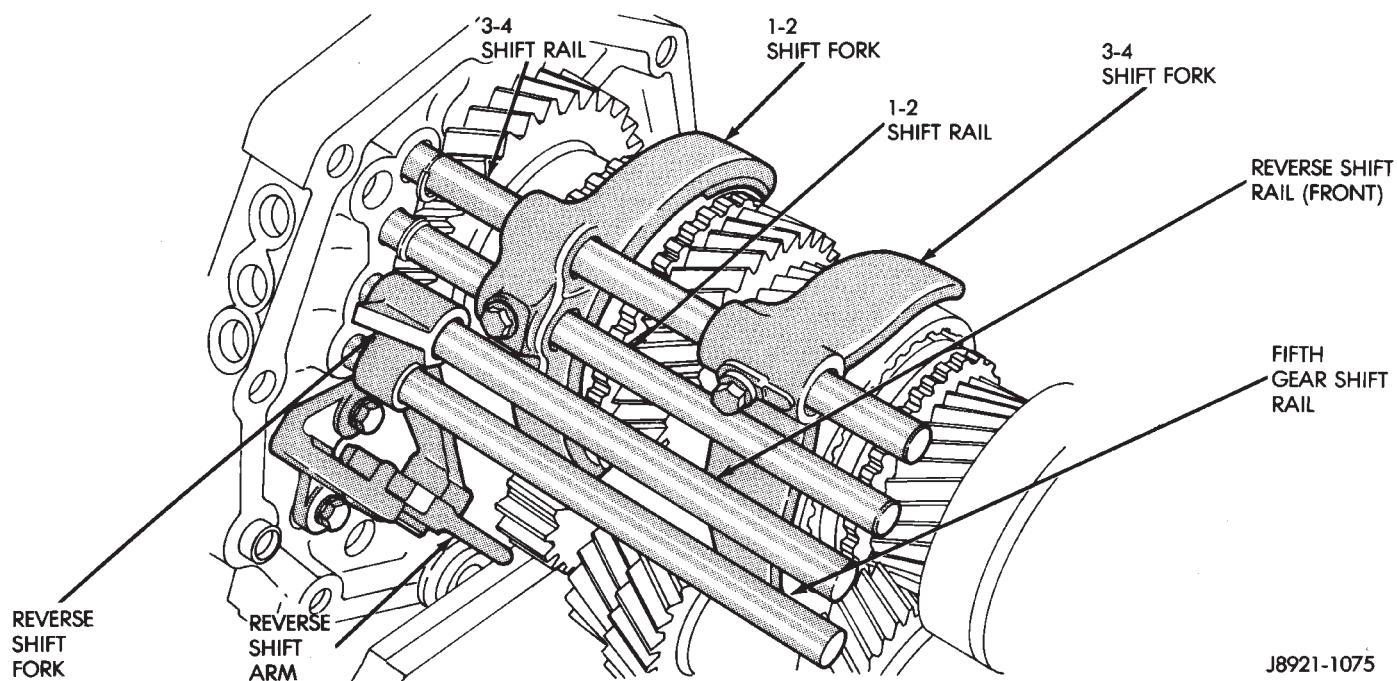

Fig. 41 Shift Rail Identification
There are a total of five shift rails in the AX 15 transmission. The 1-2, 3-4, fifth gear and front reverse shift rails are shown in Figure 41.
Two shift rails are used for reverse gear range. The front reverse rail is at the forward side of the intermediate plate (Fig. 41). The short rear reverse rail and reverse shift head are at the rear side of the intermediate plate.
- (1) Remove fifth gear shift rail (Fig. 41). Catch lock ball in your hand as rail comes out of intermediate plate.